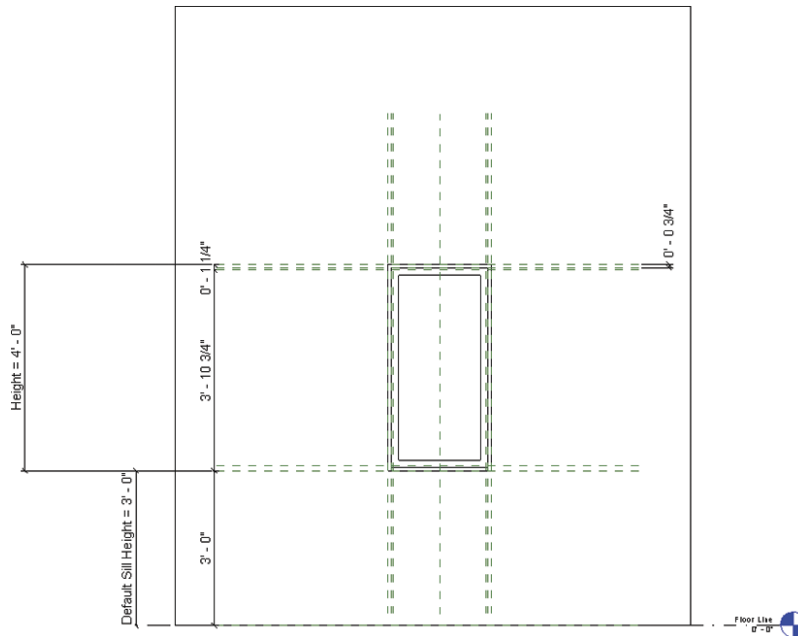

FIGURE 6.21 Reference planes and dimension parameters
4. Activate the Exterior elevation view from the Project Browser window by double-clicking the Exterior elevation view (Figure 6.21).